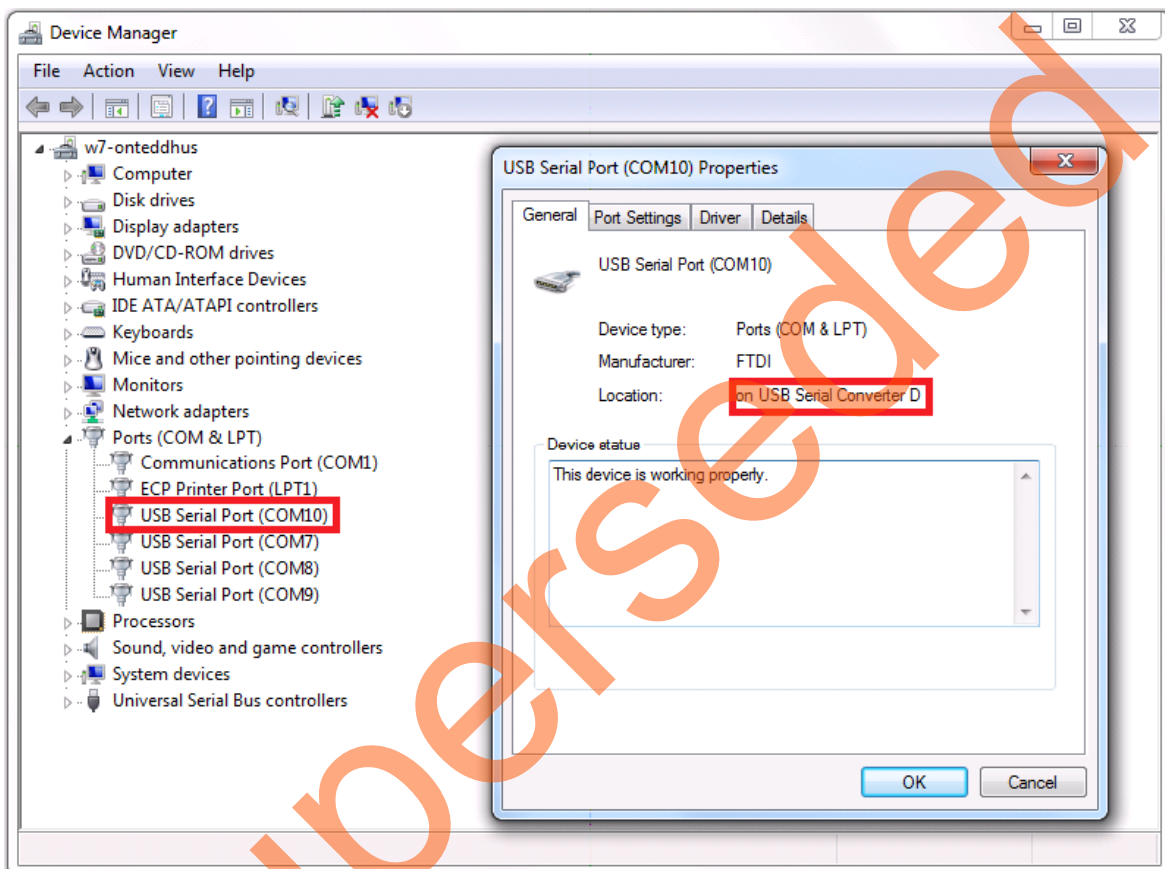

Figure 26 • Device Manager Window
2. Connect the host PC to the J18 connector using the USB Mini-B cable. The USB to UART bridge drivers are automatically detected. Of the four COM ports, select the one with Location as **on USB Serial Converter D**. Figure 26 shows an example Device Manager window.